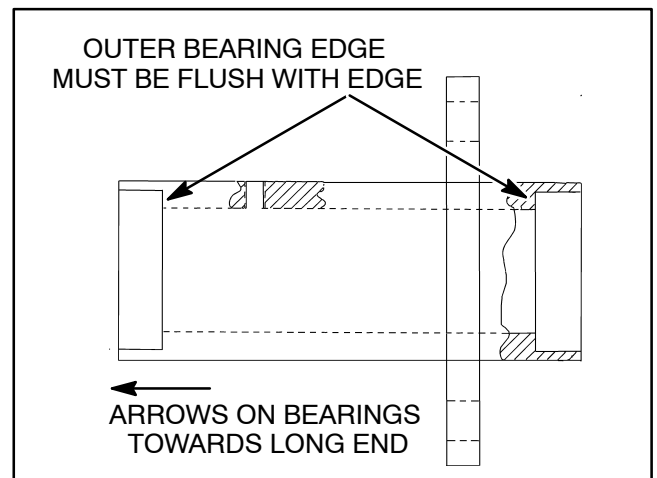

Figure 9
1. If removed, press new drive studs (item 7) into the wheel hub fully to the shoulder of the stud flange.
2. If removed, press roller clutch bearings (item 6) into the hub as follows (Fig. 9):
NOTE: Arrow on the side of the clutch roller bearings must point to the long side end of the hub (Fig. 9).